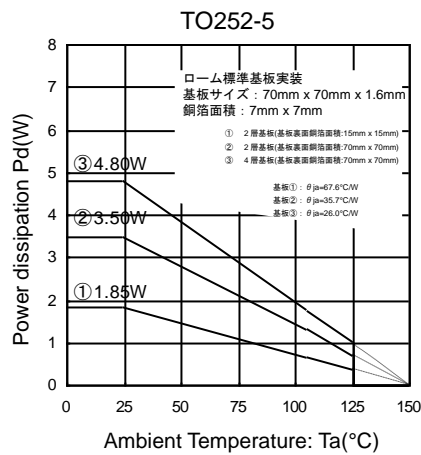

Figure 16
$$I_{OUT} \leq \frac{2.496 - 12 \times I_{CC}}{12 - 5} \quad \left(\begin{array}{l} \text{Figure 16 ③ : } \theta_{ja} = 26.0^\circ\text{C/W} \rightarrow 38.4\text{mAW}/^\circ\text{C} \\ 25^\circ\text{C} = 4.80\text{W} \rightarrow 85^\circ\text{C} = 2.496\text{W} \end{array} \right)$$